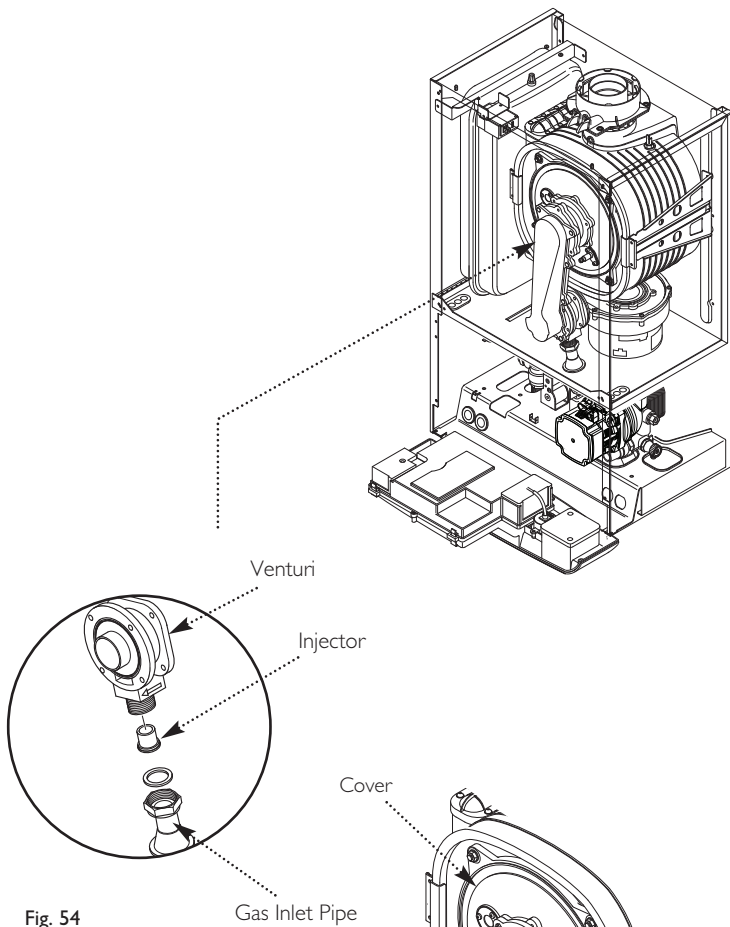

Fig. 54
13.3 Fan (Fig. 54)
1. Undo the nut on the gas inlet pipe to the venturi (Fig. 54) and pull the sensing pipe off the fan.